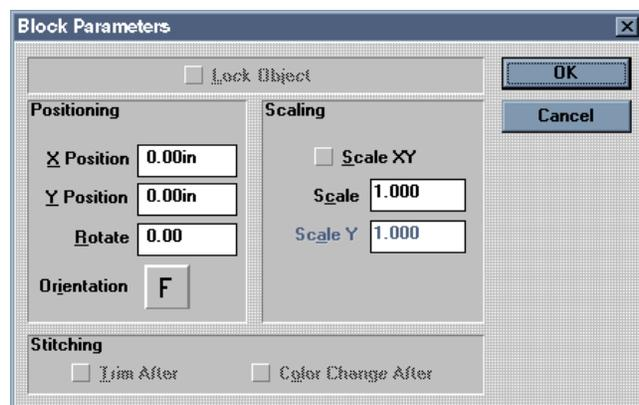

Figure 1-21
2. Click the Block Parameters tool  to display the Block Parameters dialog box (Figure 1-21).